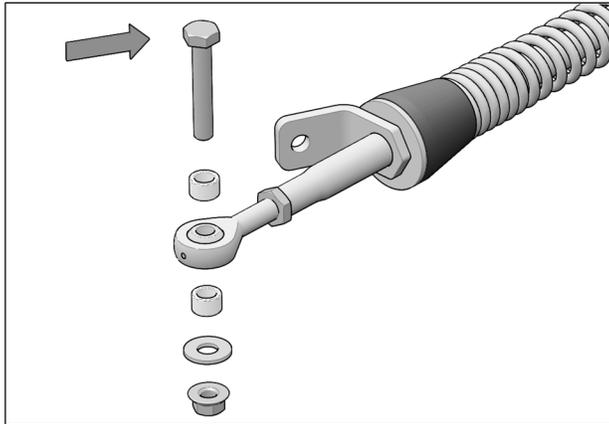

Fig. 14
3. Remove bolts, nuts, washers and bushings from front stabilizing rod ends as shown in Fig. 14